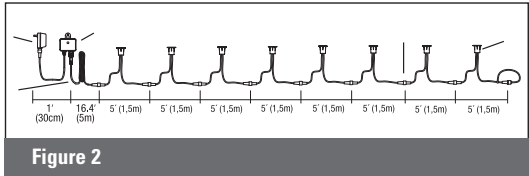

Figure 2
- b. Connect the female end of the wire from the first light fixture to the second light fixture, and each fixture to the next. (Figure 2)
- b. Connect the female end of the extension wire to the first light fixture and each fixture to the next. (Figure 2)